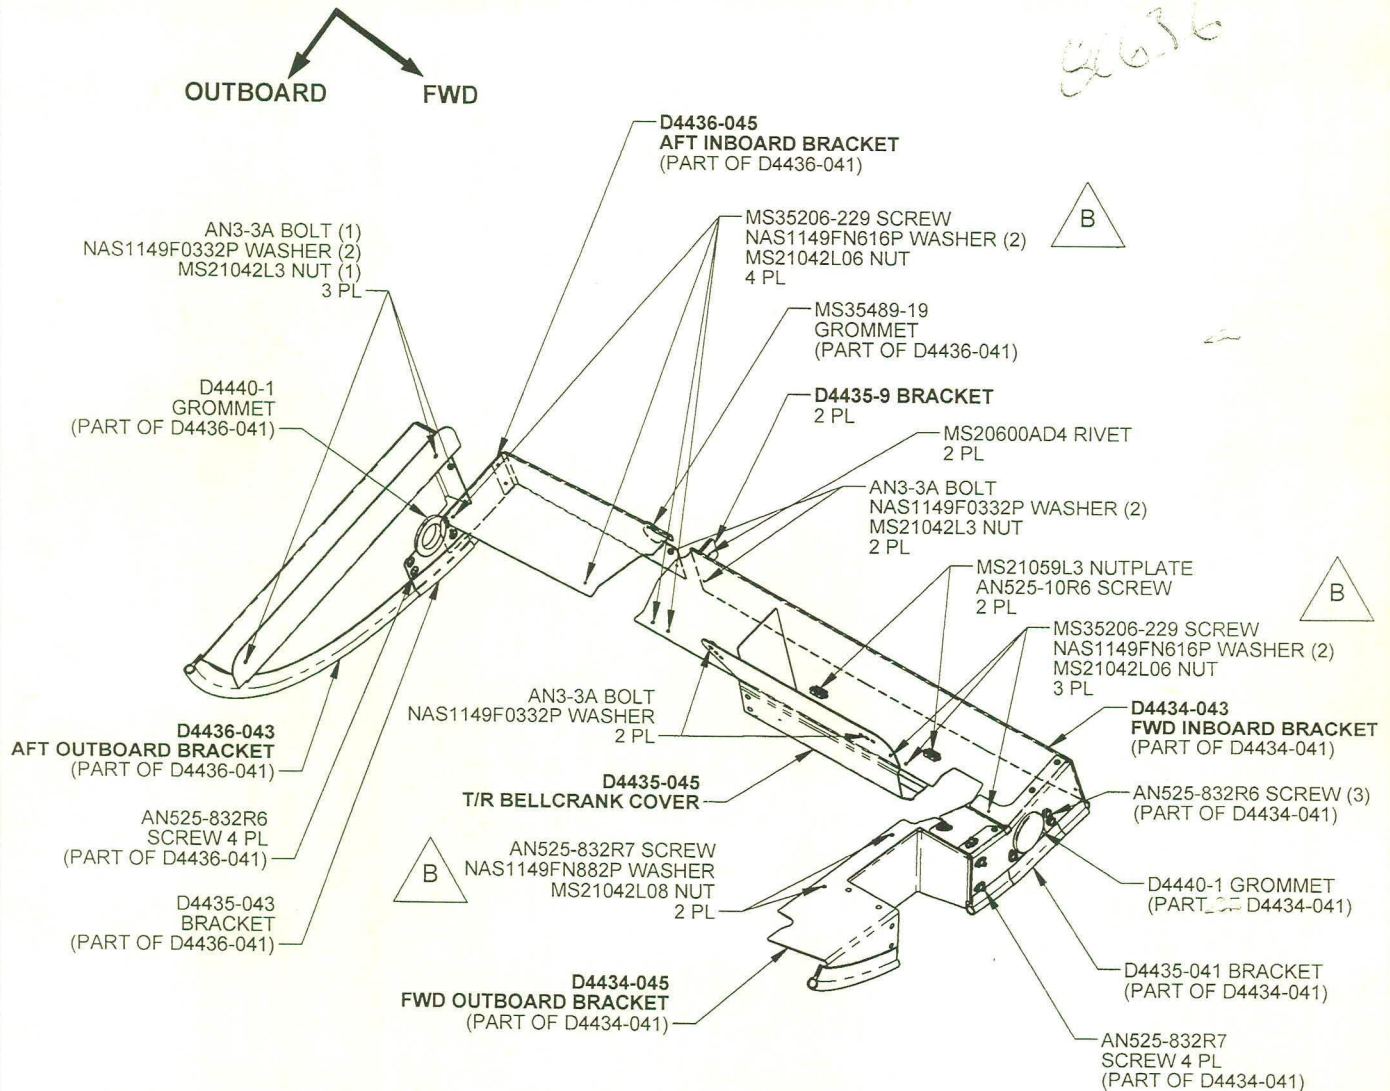

Figure 2. Floor Window Close-out Kit Installation
- Figure 2 shows the general arrangement and installation of the D350-567-141 Close-out Kit. The procedure that follows outlines the step-by-step procedures for installing the kit with reference photos from the initial installation.